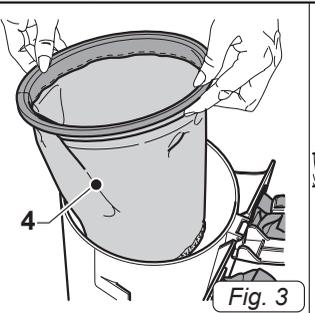
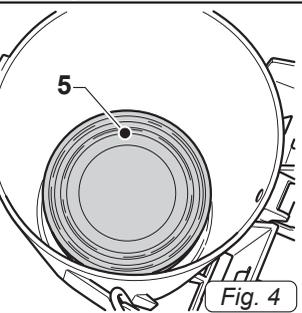
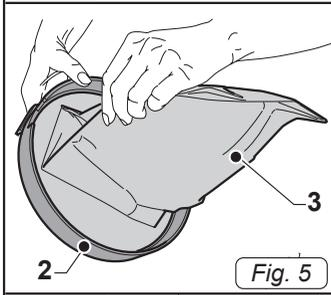
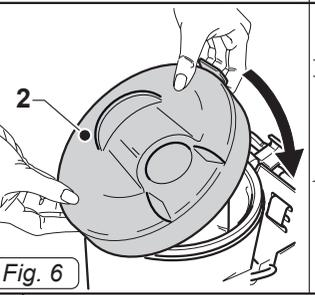

Fig. 3
Fig. 4
Fig. 5
Fig. 6
- Remove the cloth filter (4 Fig.3) and ensure that the filter cartridge is mounted inside the unit (5 Fig.4).
- Set the cloth filter back in place (4 Fig.3) and remount the paper bag (3 Fig.5) on the cover (2 Fig.5). Whilst keeping this in place, put back the cover (2 Fig.6) by